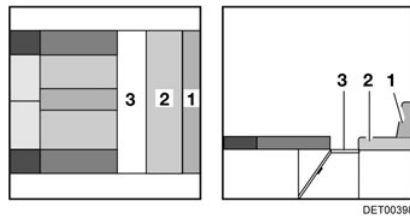

Fig. 45 During conversion
- Pull out the slatted frame (Fig. 45,3).